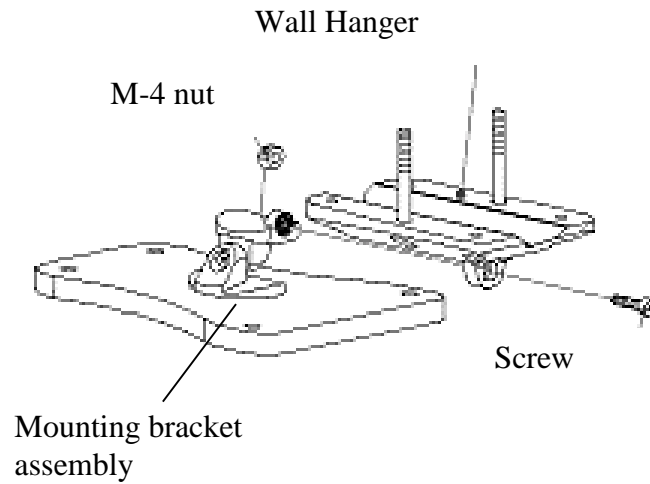

Figure 10-6: Wall hanger fixing method
4. Attach the wall bracket assembly to wall hanger using an M4 socket-head bolt and nut as shown in Figure 10-6. The bolt is only to be hand tightened at this stage.